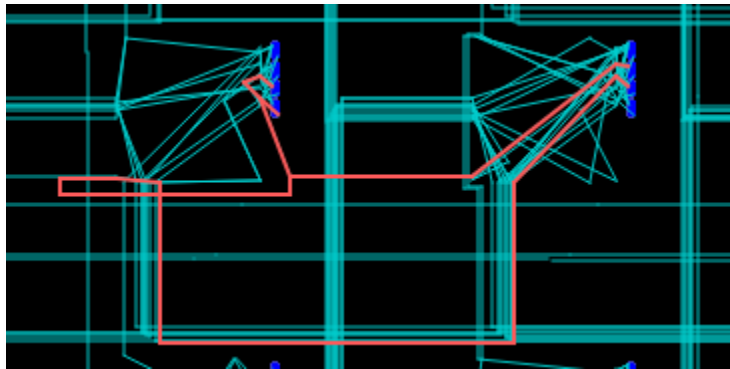

Figure 3.30. Chosen Net of Interest
1. Physical Designer Routing Mode also allows you to focus on one path for Analysis. Click on a particular net of interest as shown in Figure 3.30.